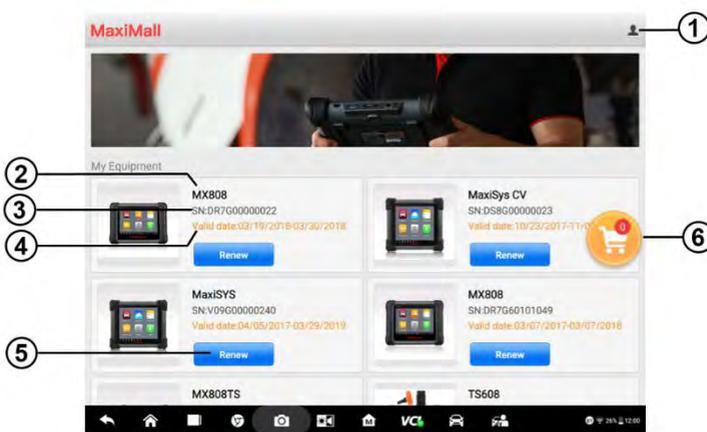

Figure 19-1 MaxiMall Homepage
1. Tap the **Renew** button as shown in **Figure 19-1**.